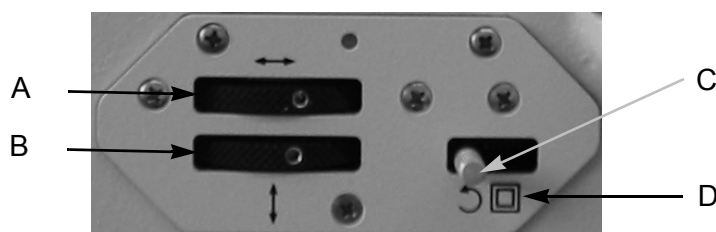

Figure 41: Knife Edge Aperture Controls
The knife edge aperture (figure 37b) consists of two pairs of blades (knife edges) to define a certain sample area for spectral data acquisition. The gap between the opposite blades is controlled by two thumbwheels (A and B in figure 41). The upper thumbwheel (A) changes the gap between the left and the right knife edge. The lower thumbwheel (B) changes the gap between the upper and the lower knife edge. The lever is used to lock and rotate the knife edges. If the lever points to the back of the microscope (D in figure 41), the blade rotation is locked and the aperture area size can be changed. If you rotate the lower thumbwheel (B) while the lever points to the front of the microscope (C in figure 41), the defined sample area (i.e. gap between the knife edges) remains unchanged but rotates around the center of the viewing field.